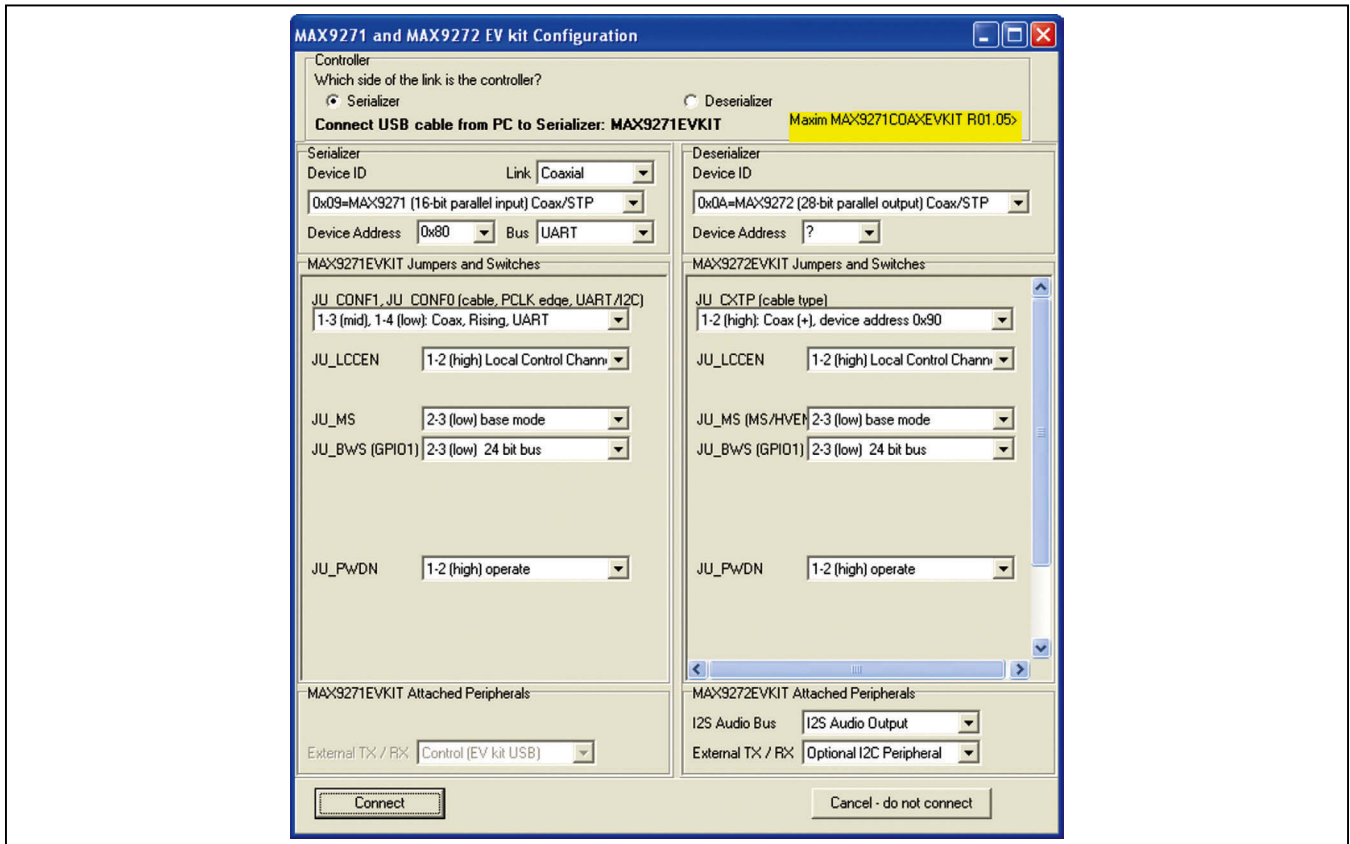

Figure 7. MAX9271/MAX9272 EV Kit Software Connect Window
- 11) Start the MAX9272 coax EV kit software by opening its icon in the **Start | Programs | Maxim Evkit Software | MAX9272** menu. The EV kit software configuration window appears, as shown in Figure 7.
The **Change Configuration** button brings up the **Software Connect** window (Figure 7), allowing the software GUI to select which side of the link the USB cable should be plugged into and the **Jumper Setting** window (Figure 8) to help in configuring the boards. Controlling from the MAX9272 side requires changing some jumper settings, as described in this window. If the MAX9271 and MAX9272 device addresses have been previously changed from their factory power-on-reset (POR) values, the new addresses must be specified in the **Software Connect** window to allow register access.